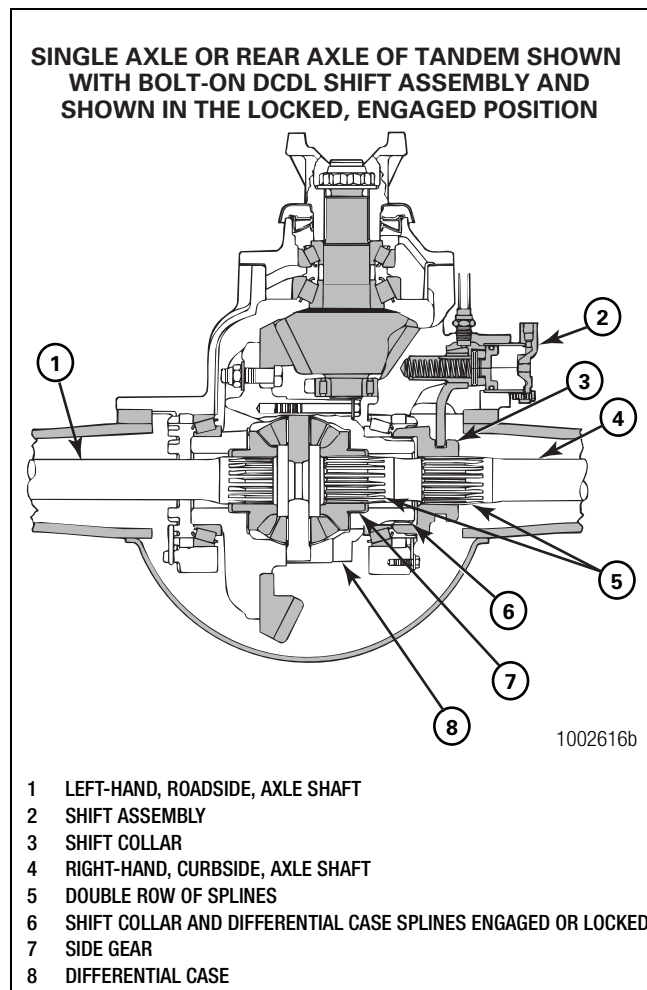

Figure 11.10
5. Install the axle shaft(s) indicated in Table AK. Axle shafts with a DCDL have a double row of splines that engage with the splines of the side gear and shift collar in the differential case. Figure 11.10. Continue with Step 6.